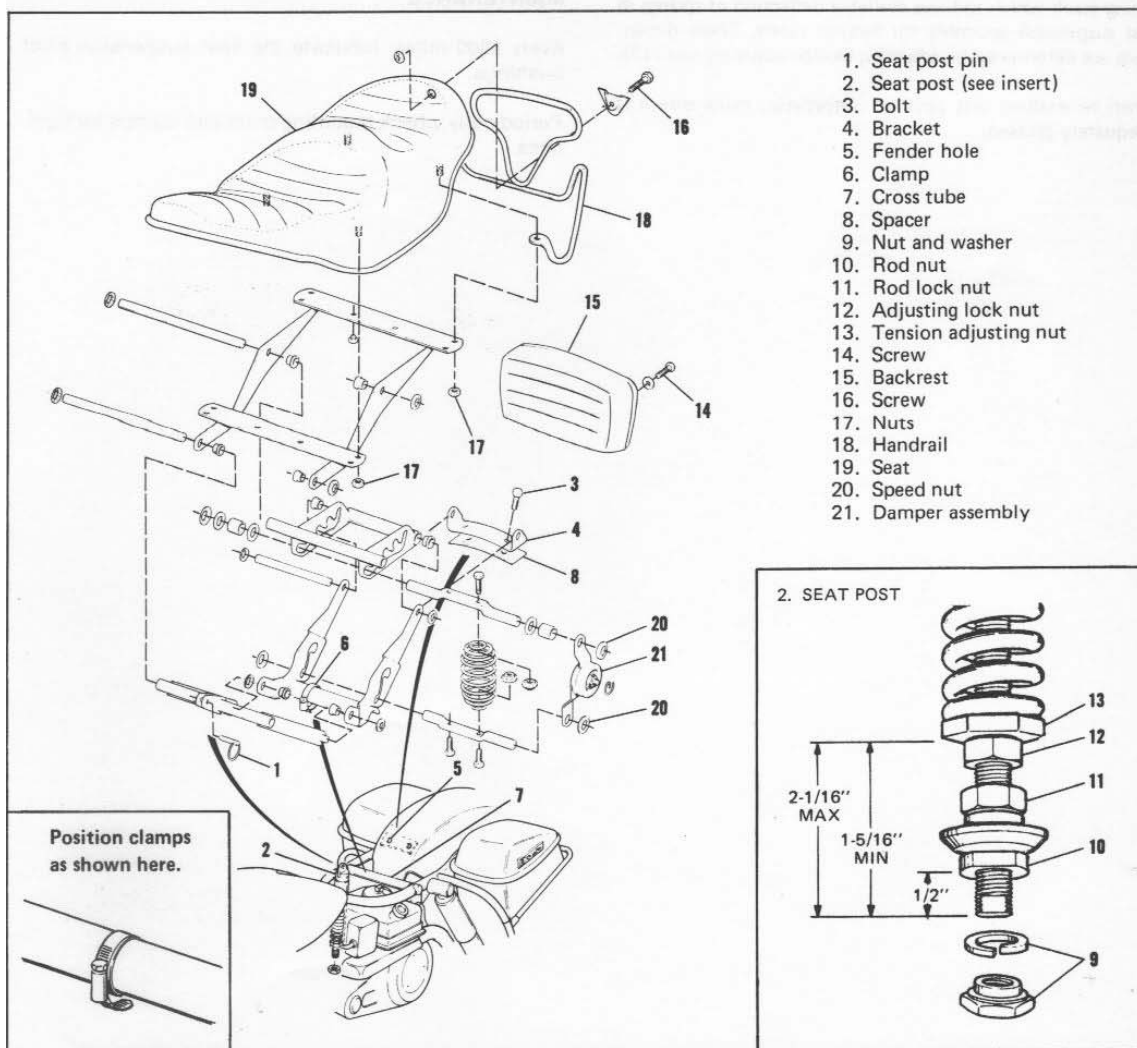

Figure 2-50. Comfort Flex Seat – Exploded View
REMOVING AND INSTALLING SEAT ASSEMBLY (Figure 2-50)
After removal from motorcycle, the seat assembly is partially disassembled by removing items 14 through 20 in the order shown in Figure 2-50. Reassemble in reverse order.